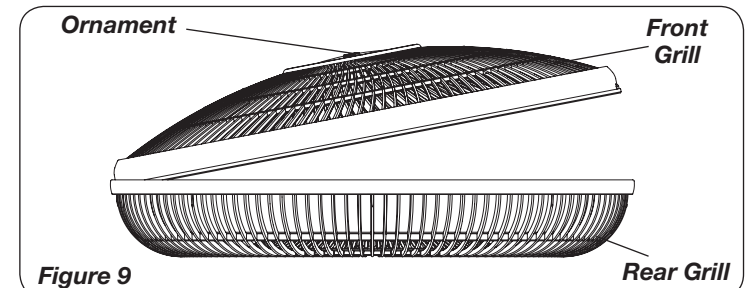

Figure 9
5. With Fan head in upright position, align Ornament of Front Grill so it is horizontal and right side up. By starting with the top of the grill and working down, snap grill in place. NO GRILL CLIPS ARE NEEDED FOR ASSEMBLY. (Figure 9)